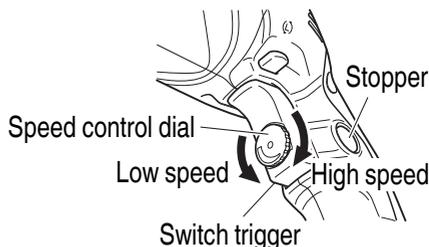

Fig. 9
- The desired rotation speed can be pre-selected with the speed control dial. Turn the speed control dial clockwise for higher speed and counterclockwise for lower speed (Fig. 9).